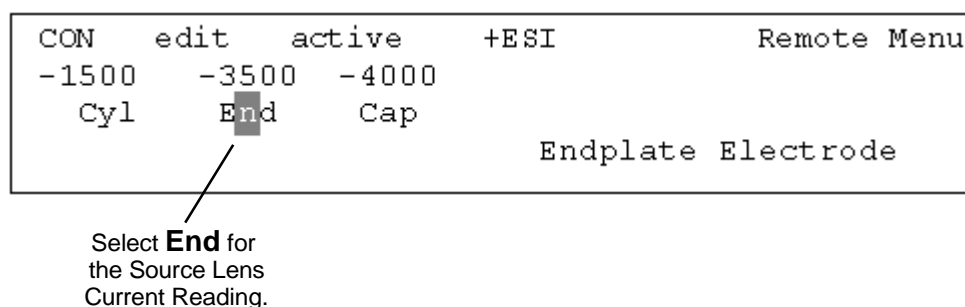

Figure 4-5 Setting the Source Lens Current Reading
9. Use the arrow button below the LCD display to position the display cursor on **End** (Figure 4-5) so that the Source Lens Current gauge on the ESI Source reads the current on the **Endplate Electrode**.